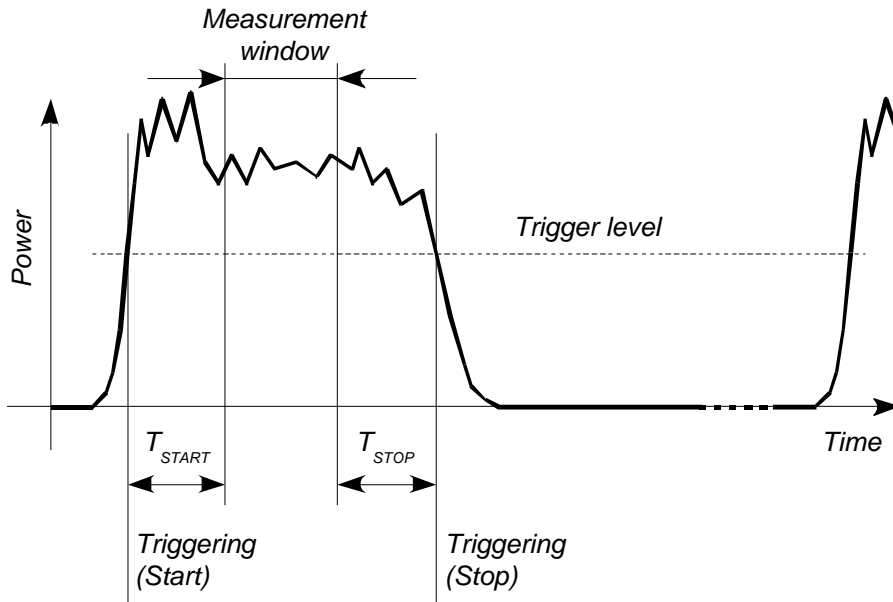
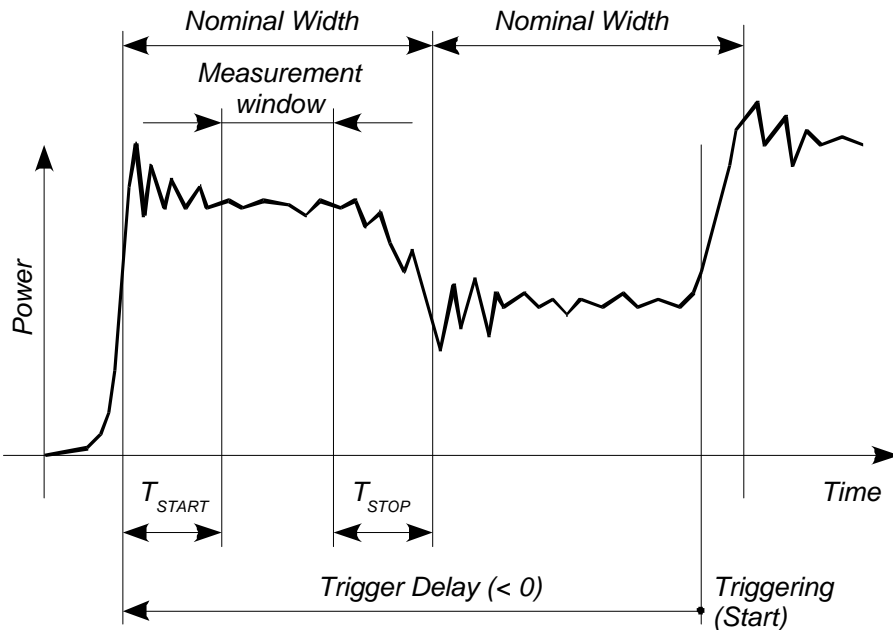

Fig. 6-2 Effect of *SENSe:TIMing:EXCLude:START* and *:END* in the *Burst Average* mode
Fig. 6-3 Effect of *SENSe:TIMing:EXCLude:START* and *:END* in the *Timeslot* mode
*SENSe:TIMing:EXCLude:STARt* defines the exclusion time at the beginning of the measurement window in the *Burst Average* (Fig. 6-2) and *Timeslot* (Fig. 6-3) modes.
*SENSe:TIMing:EXCLude:STOP* defines the exclusion time at the end of the measurement window in the *Burst Average* (Fig. 6-2) and *Timeslot* (Fig. 6-3) modes.